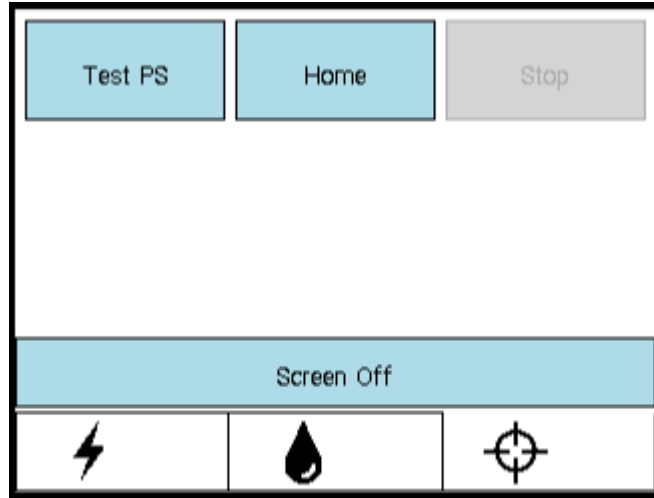
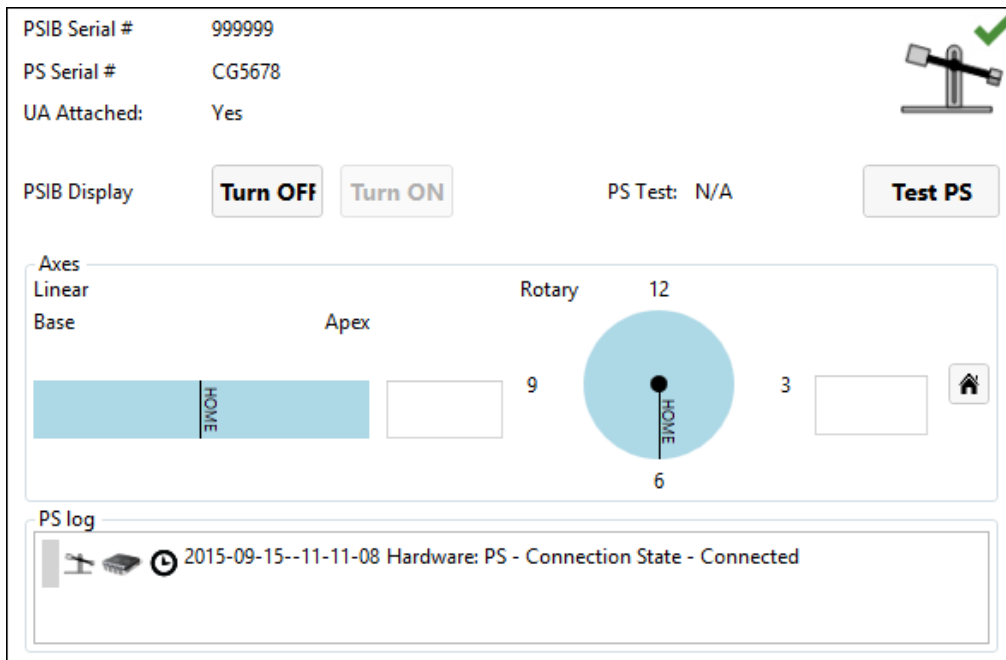

Figure 16: PSIB display - PS tab
Figure 17: PS information box in Setup workspace
- b. On the PSIB display, select the **PS** tab and click **Test PS** (Figure 16). The system will translate the PS forward and backward to test the continuity and functionality of the translation axis as well as home the PS in the translation axis. The system will also rotate the rotational axis clockwise and counter-clockwise to test the continuity and functionality of the rotational axis. This can also be done from the TDC *Setup* workspace in the PS information box in the bottom-right quadrant (Figure 17).